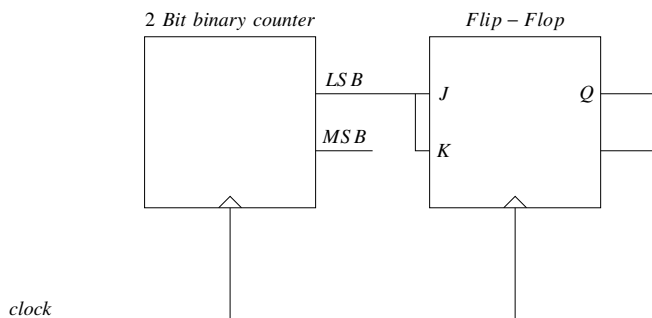

Fig. 5.29
30. For the circuit shown in Fig. 5.29, the clock frequency is  $f_0$  and the duty cycle is 25%. For the signal at the  $Q$  output of the Flip-Flop,